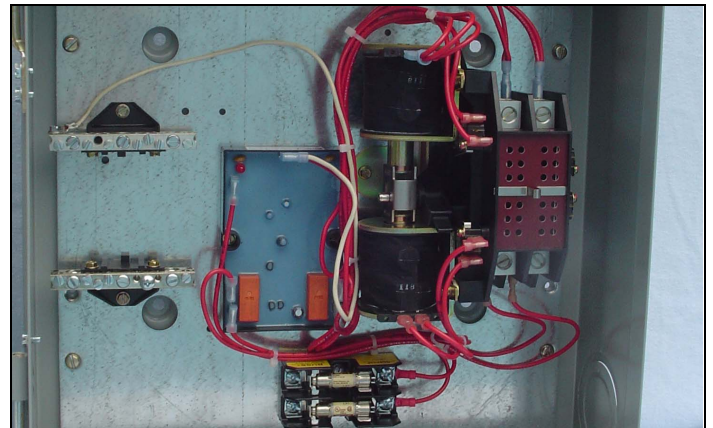

Figure 23. Generator Controller Board as Mounted in a Standard 100 A CHGEN ATS.
Step 2: Note the orientation of the generator controller board as it was mounted to the base plate at the factory (see Figures 23 and 24)
Step 4: Remove the two (2) screws securing the generator controller board to the base plate using a blade screwdriver. Remove the generator controller board.
Step 5: Orient the new generator controller board as per the original installation then align the controller board with the existing holes in the base plate. Secure the new generator controller board to the base plate using the hardware supplied (see Figure 23 or 24).